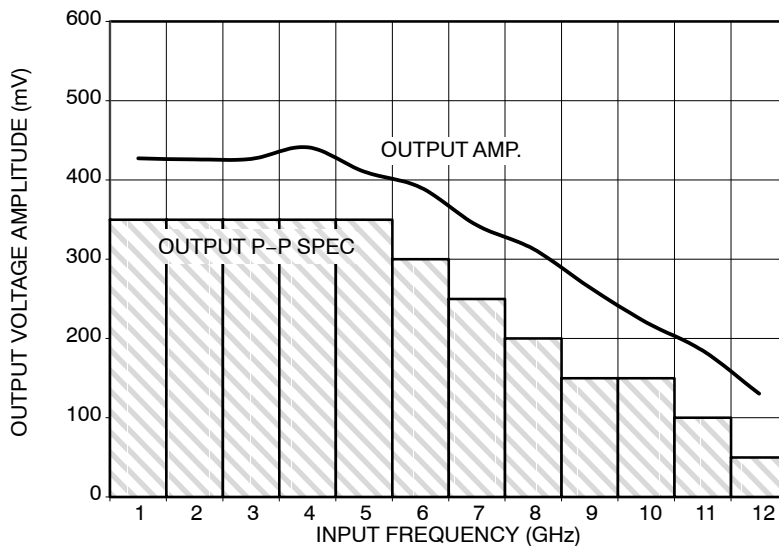

Figure 4. Output Amplitude (V_{OUTPP}) vs. Input Frequency (F_{IN}) at Ambient Temperature (Typical)
22. Measured using a 500 mV source, 50% duty cycle clock source. All loading with $50\ \Omega$ to $V_{CC} - 1.5\text{ V}$ for BGA package. For minimum f_{max} value of 10.709 GHz, output amplitude is approximately 200 mV (as shown in Figure 4, where output P-P spec is shown as a minimum/guarantee of around 150 mV). Input edge rates 40 ps (20% – 80%).
27. Measured using a 500 mV source, 50% duty cycle clock source. All loading with $50\ \Omega$ to $V_{CC} - 2.0\text{ V}$ for QFN package. For minimum f_{\max} value of 10.5 GHz, output amplitude is approximately 200 mV (as shown in Figure 4, where output P-P spec is shown as a minimum/guarantee of around 150 mV). Input edge rates 40 ps (20% - 80%).